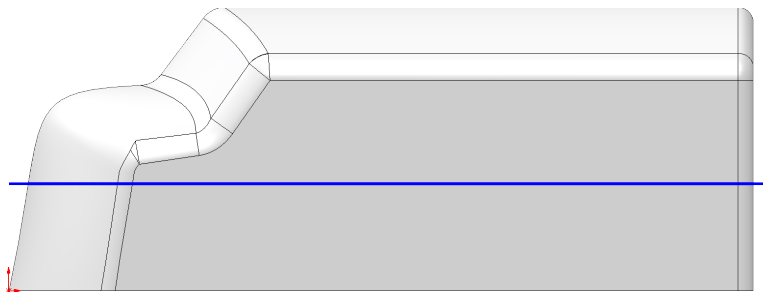

Fig. 65
Step 4. Sketch **horizontal line above Origin**  across all body, **Fig. 65**.